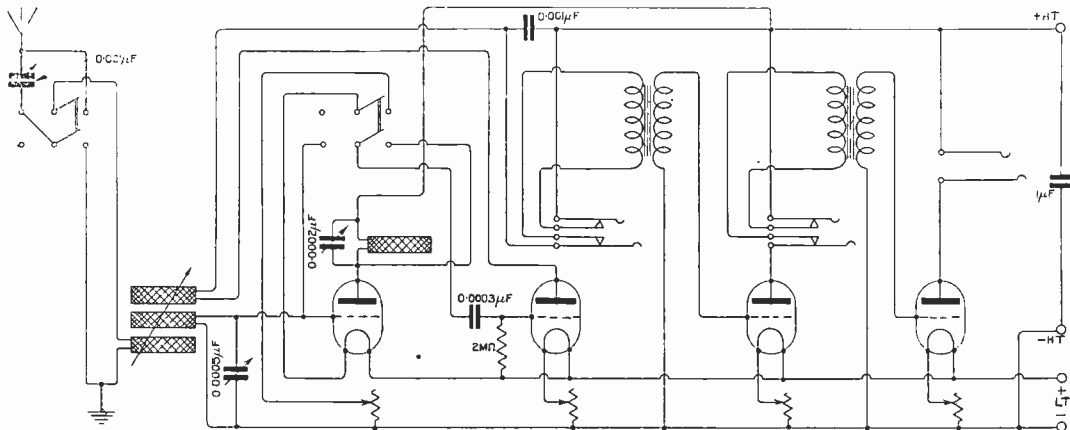

Fig. 6.
(1) The diagram given in Fig. 6 is quite suitable for your purpose. (2) The P.O. telegraph relay will operate well with a current of 0.2 milliampere. (3) We suggest you use a three-valve receiver for this purpose. (4) The arrangement suggested is quite suitable.